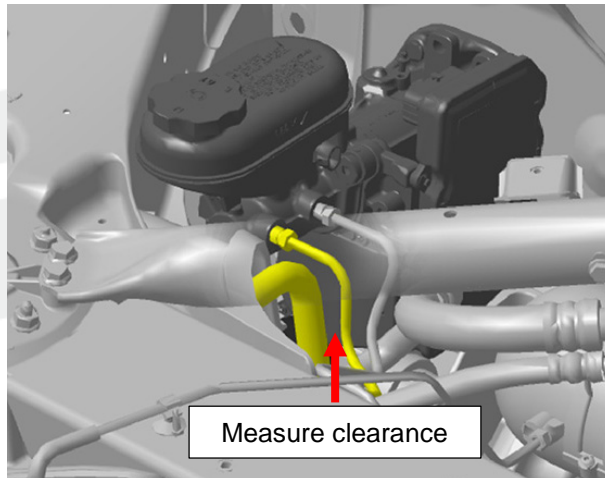

Figure 1
2. Measure the distance between the A/C line and the front brake line (Figure 1):
7. Have an assistant monitor the clearance between the A/C line and brake line (Figure 1). Gently adjust the position of the A/C line until there is 5 mm of clearance.